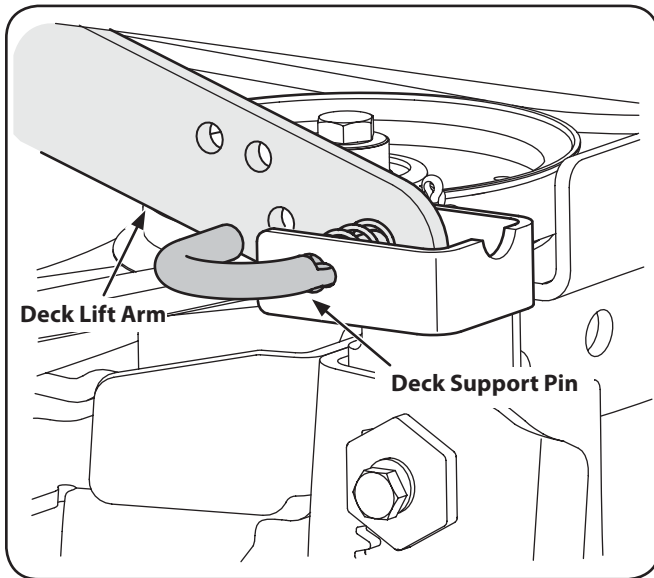

Figure 7-3
- Pull the deck support pin outward to release the deck from the deck lift arm. See Fig. 7-3.